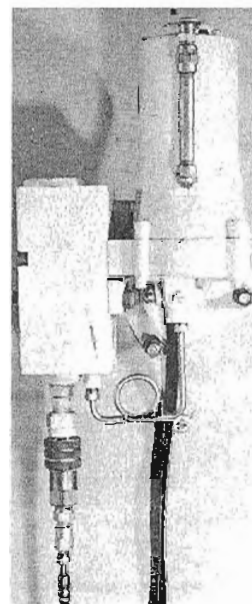

Figure 9. Low Pressure Pump
1. Low Pressure Pump - Systems which have a low pressure pump, as shown in Figure 9, require SAE 10W30 motor oil.